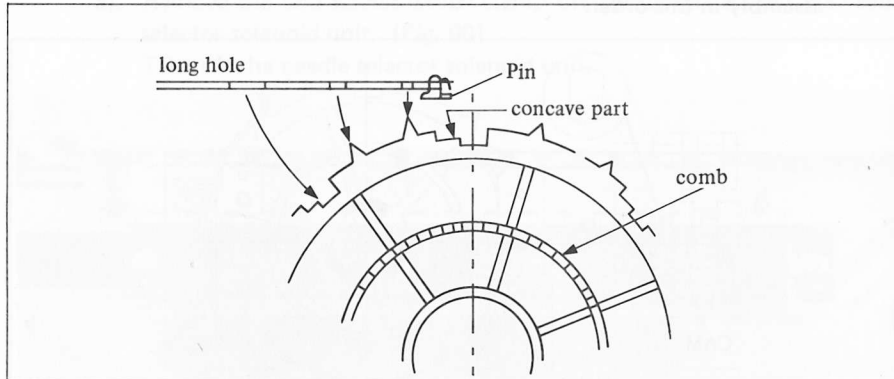

Fig. 84
A. Pass the timing belt from the left side of the timing belt cover (R) which is installed under the back side of the card reader with the connecting pin face inside.
B. Move the timing belt to the rotary encoder and fit the belt connecting pin into the concave part of the rotary encoder as show in the figure. (Fig. 84)